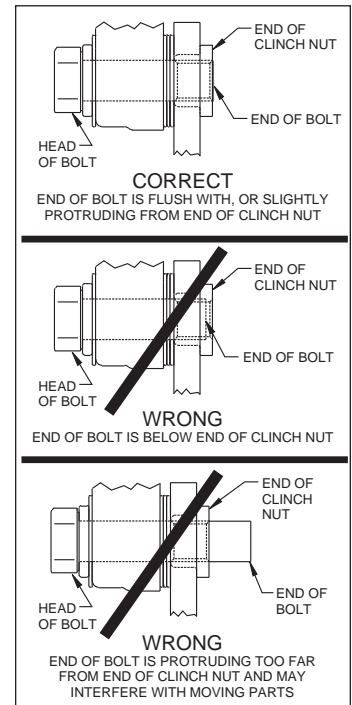

Figure 3. Clinch Nut Engagement Diagram
Assembly Instructions (numbers in parenthesis refer to the parts list, on the preceding page and Figure 1): **CAUTION:** All mounting bolts must fully engage clinch nuts. Be sure to check that all bolts are either flush or protruding through flanged side of clinch nut after shimming, Figure 3.
- NOTE:** Please reference the caution statement at the beginning of the assembly instructions. Mount the caliper (18) onto the caliper mounting bracket (1) using bolts (20) and washers (19), as shown in Figure 1. Initially place two .035" thick shims (21) on each bolt between the caliper and the bracket, Photo 8. Temporarily tighten the mounting bolts and view the rotor (11) through the top opening of the caliper. The rotor should be centered in the caliper, Photo 9. If not, adjust by adding or subtracting shims between the bracket and the caliper. Always use the same amount of shims on each of the two mounting bolts. **NOTE:** The end of each bolt must be flush with or slightly protruding from the head of the clinch nut, as shown in Figure 3. If necessary place spare shims between washer (19) and caliper mounting ear to achieve the proper clinch nut engagement. Once the caliper alignment and clinch nut engagement are correct, remove the bolts one at a time, apply red *Loctite*® 271 to bolt threads, and torque to 40 ft-lb..